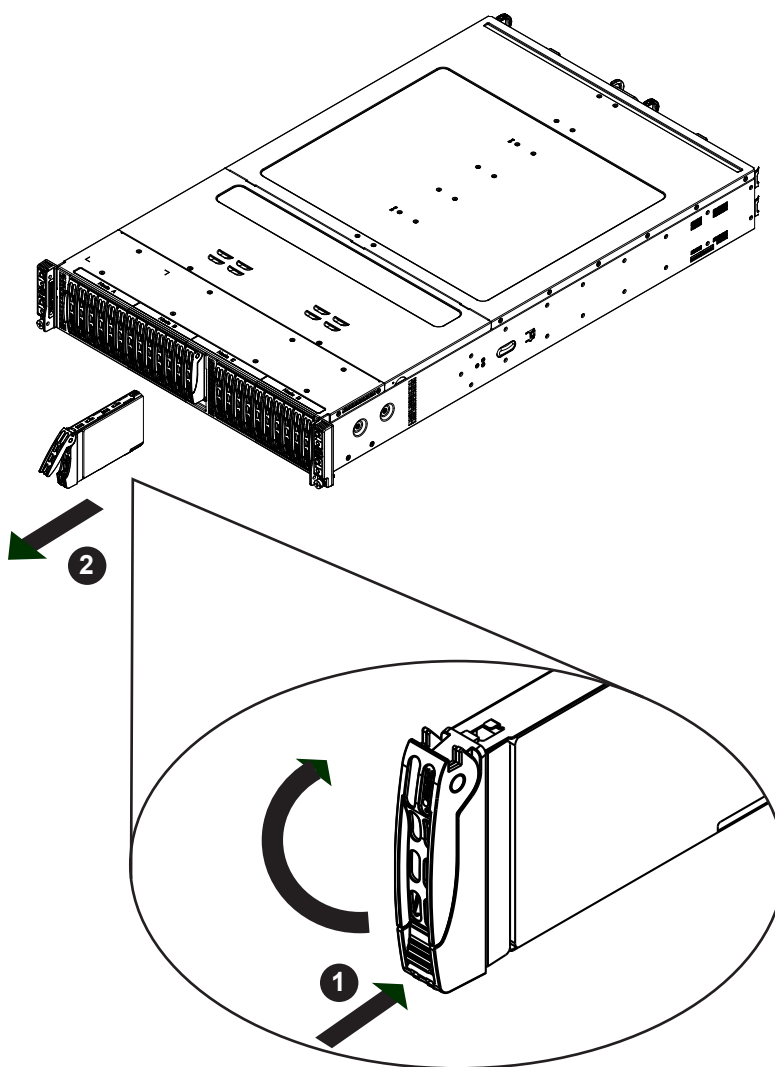

Figure 3-7. Removing a Drive Carrier
2. Use the handle to pull the carrier out of the chassis (Figure 3-7).